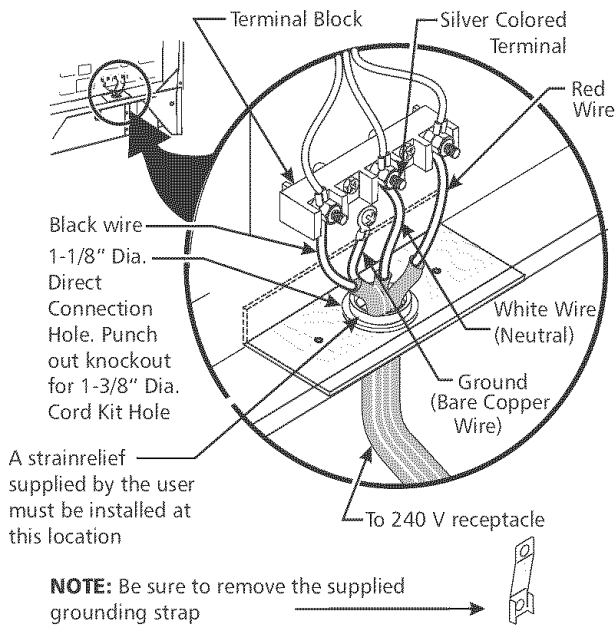

Figure 5
For mobile homes, new installations, recreational vehicles, or areas where local codes do not permit grounding through neutral, a 4 conductor power supply cord kit rated at 125/250 volts minimum, 40 amperes and marked for use with ranges should be used (see Figure 5).
4. Connect the ground wire (green) of the copper power supply cord to the frame of the appliance with the ground screw, using the hole in the frame where the ground strap was removed (see Figure 5).
6. Replace the 3 nuts on the terminal block (see figure 5).
If the appliance is connected directly to the circuit breaker, fuse box or junction box, use flexible, armored or nonmetallic sheathed copper cable (with grounding wire). Supply a U.L. listed strain-relief at each end of the cable. At the appliance end, the cable goes through the Direct Connection Hole (see Figure 5) on the Cord Mounting Plate. Wire sizes (**copper wire only**) and connections must conform to the rating of the appliance.